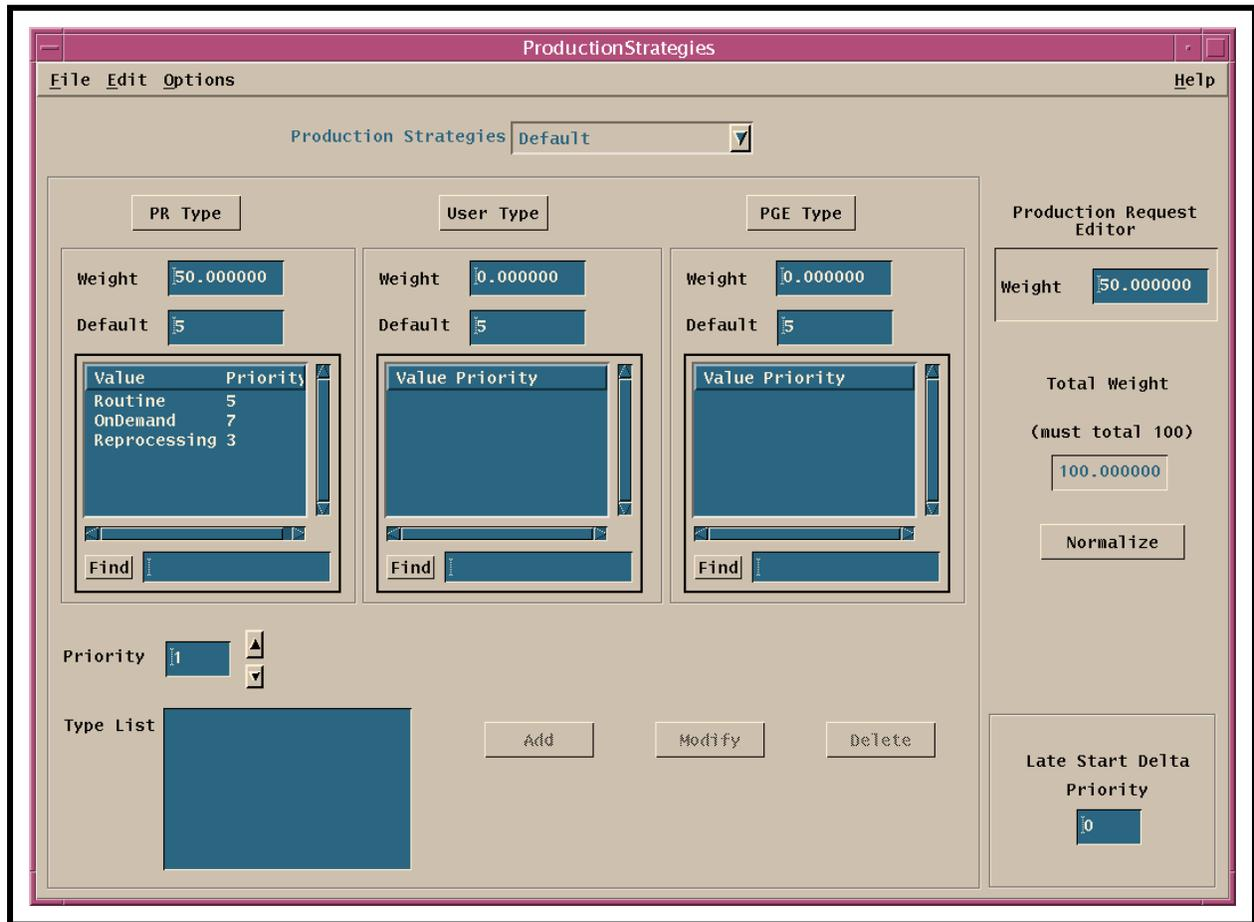

Figure 35. Production Strategies GUI
- The **Production Strategies GUI** (Figure 35) is displayed.
The procedure for defining a production strategy starts with the assumption that all applicable servers are currently running and the **Production Strategies** GUI (Figure 35) is being displayed.
- The fields of the **Production Strategies** GUI (Figure 35) are reset.
- Data pertaining to the selected production strategy are displayed in the applicable fields of the **Production Strategies** GUI (Figure 35).